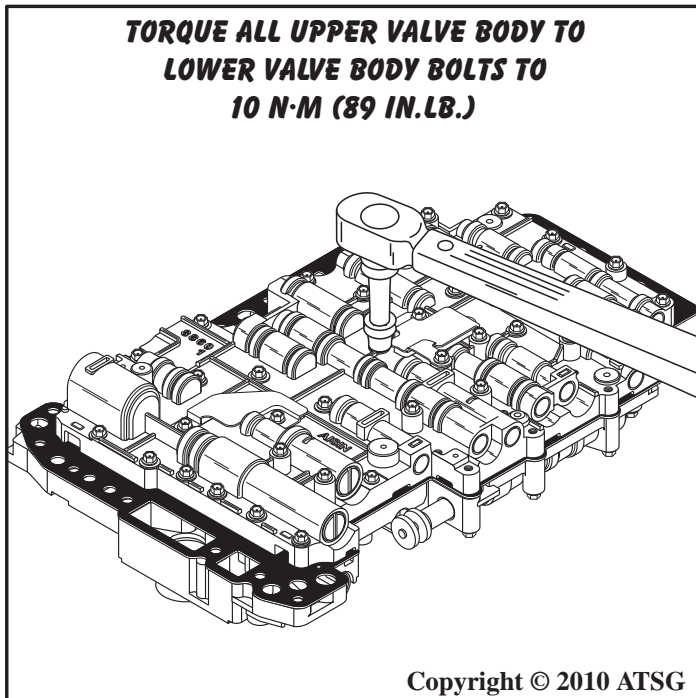

Figure 183
31. Torque all 39 upper valve body to lower valve body bolts to 10 N·m (89 in.lb.), as shown in Figure 183.